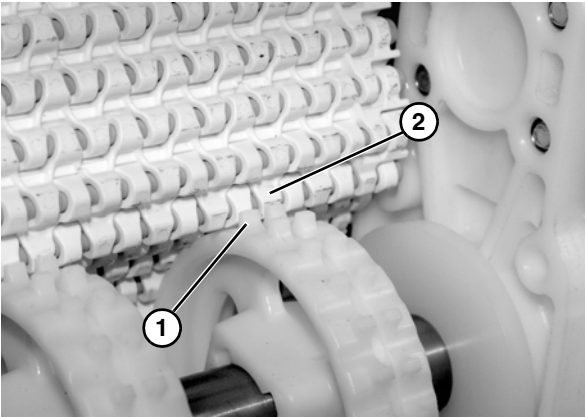

Figure 9
3. Wrap the belt around the drive end of the conveyor, making sure the sprocket teeth have engaged the belt, with concave teeth (**Figure 9, item 1**) mating with rounded section (**Figure 9, item 2**) of belt.